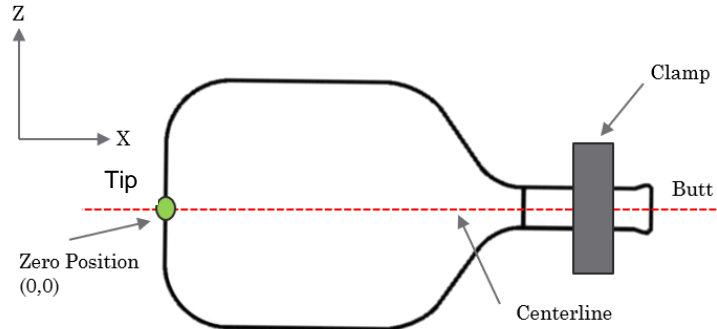

Figure 5
- e. Align the paddle in the X and Z direction so that the zero position is at the tip end of the paddle and on the paddle centerline (see Figure 5). A laser alignment tool can be used to identify the cannon's target location.